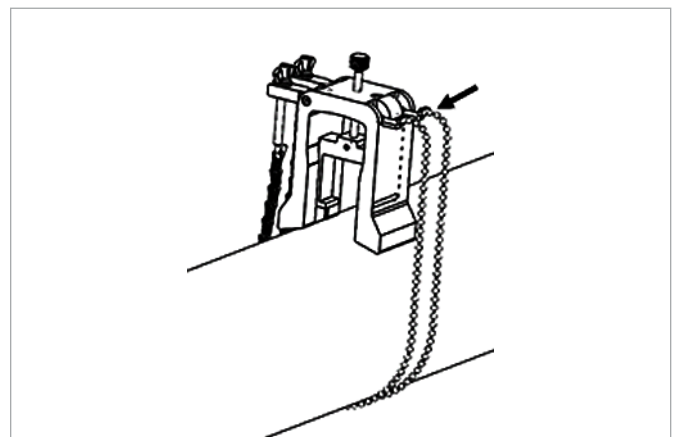

Figure 37: Yoke chains secured
- Wrap the yoke chains around the pipe and secure them to the yoke bracket, as shown in *Figure 37* below.